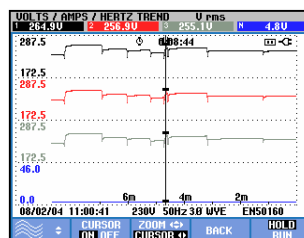

Figure 17-5. Trend display, cursor on
- Operate F2 to switch the Cursor on. Use the left/right arrow keys to move the Cursor horizontally along the trends. The value of the trends at the Cursor is displayed in the screen header as shown in Figure 17.5. Observe that the screen update stops now (recording of data continues!). Trend can record a maximum of six screens of which one is displayed at a time. Positioning the Cursor across the left or right screen end brings the next screen within the viewing area.